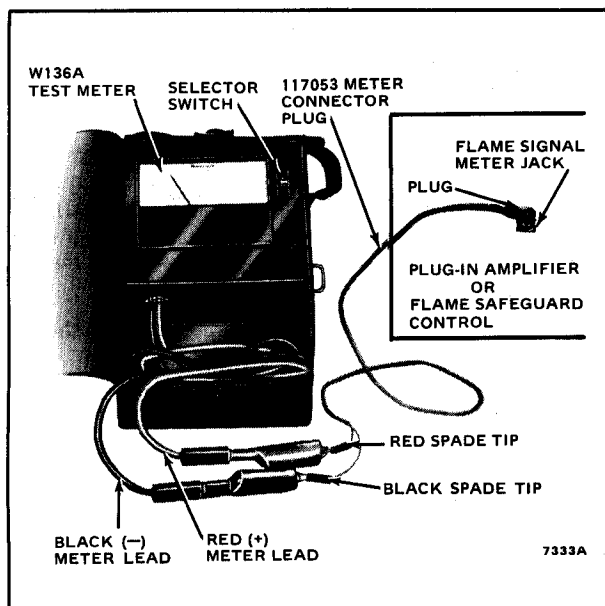

FIG. 5—MEASURING THE FLAME SIGNAL.
With the detector installed and the burner(s) running, adjust the position of the detector for optimum flame signal. Read the flame signal in microamps at the meter jack on the plug-in flame signal amplifier or on the flame safeguard control (Fig. 5). Use a microammeter with a 0 to 25 microamp dc range, such as a Honeywell W136A, which has a plug for inserting into the meter jack. (A 117053 Meter Connector Plug may be ordered separately if needed.) Connect the RED (+) meter lead to the red spade tip and the BLACK (-) lead to the black spade tip before inserting the plug into the meter jack.
3. If the flame relay in the control pulls in, the C7012 is functioning properly. If flame relay does not pull in, look for a dirty quartz window or sighting pipe, or a misaligned sighting pipe. Measure the flame signal as described in the previous ADJUSTMENTS AND CHECKOUT section (see Fig. 5).